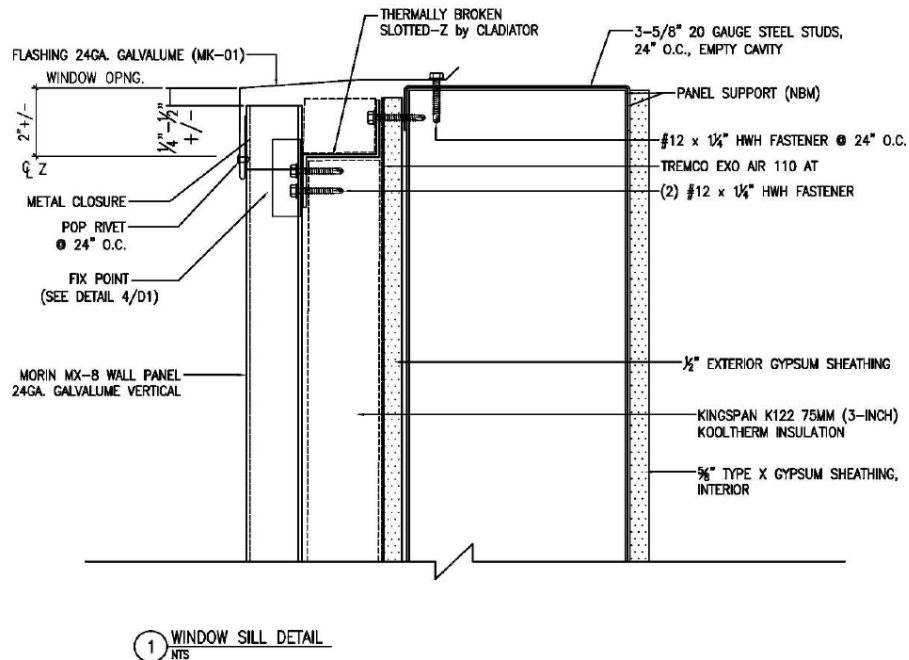

Figure 2 – Typical Window Sill Detail
6. **OPENINGS:** Openings must be framed with min. 20 GA steel. The header must be two layers consisting of 20 GA galvanized steel angle (MK-03) and 24 GA galvalume flashing (MK-02). Window sills must be covered with 24 GA galvalume (MK-01). The MK-03 angle must extend a min. of 43 in. on either side of the opening. See Figures 2 and 3 for component profiles and dimensions.